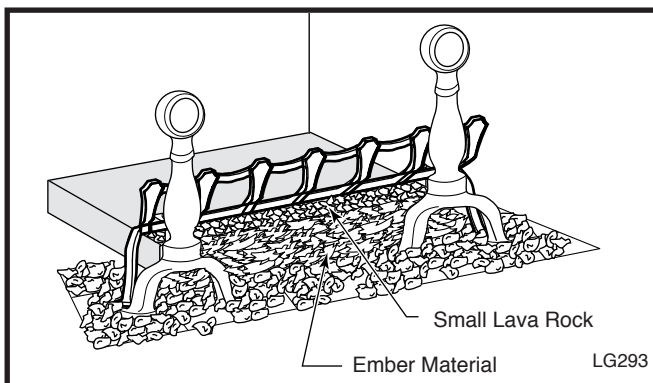

**Fig. 41** Ensure fettle is securely attached to the burner housing and set andirons in place.
1. Ensure the two (2) screws that attach the fettle to the burner are secure.
2. Set the andirons in place by hooking the tabs on the back of the andirons over the outermost webs of the fettle. (Fig. 41)